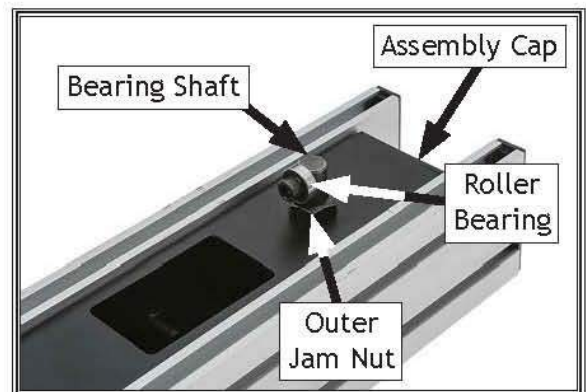

Figure 116. Rear adjustment area for leveling fence.
6. Remove fence assembly cap as shown in **Figure 116**, then loosen inner and outer jam nuts that secure bearing shaft.